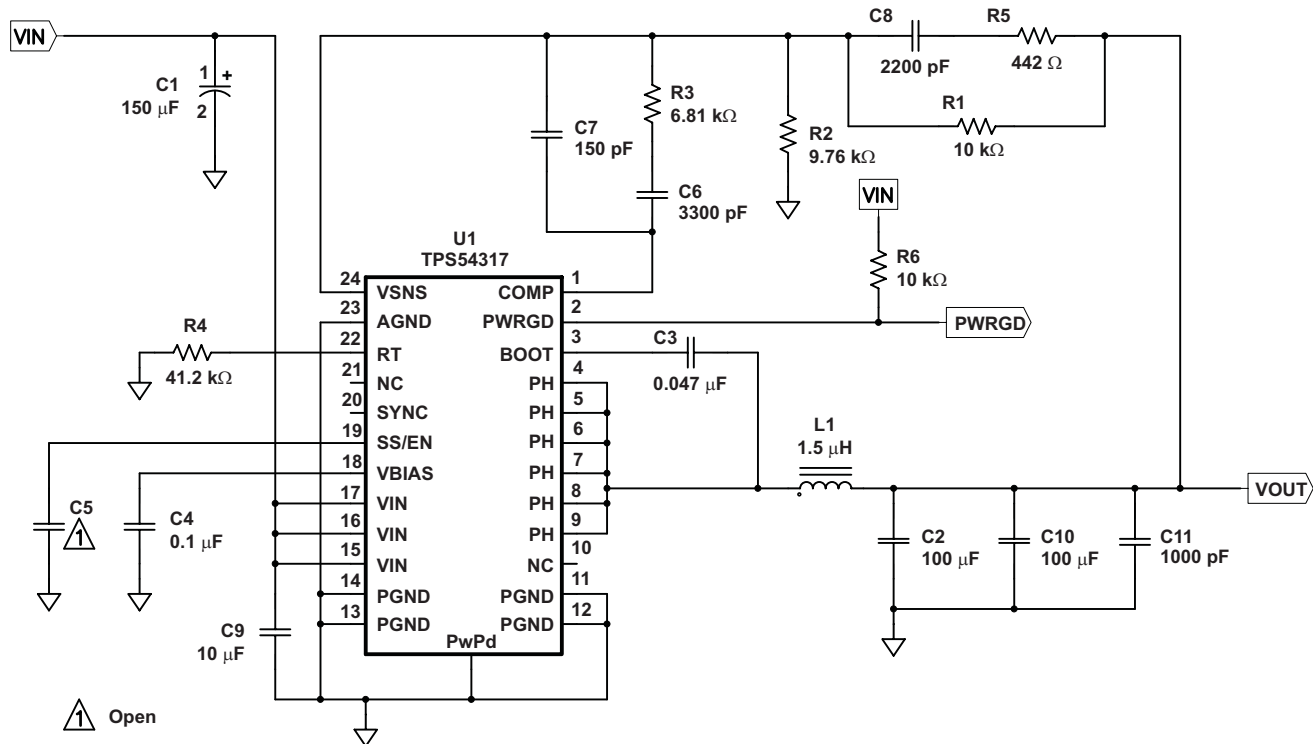

Figure 10. TPS54317 Schematic
(3) Specified by the circuit used in Figure 10 .
Figure 10 shows the schematic diagram for a typical TPS54317 application. The TPS54317 (U1) provides up to 3 A of output current at a nominal output voltage of 1.8 V. For proper thermal performance, the power pad underneath the TPS54317 integrated circuit needs to be soldered well to the printed circuit board.